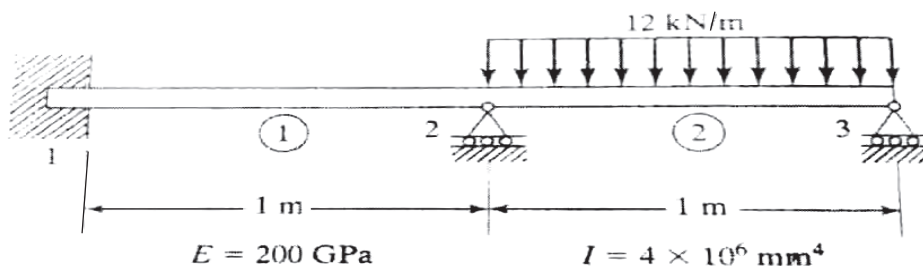

Fig. 8a
- Q8)** For the beam and loading shown in fig. 8a. Determine [16]